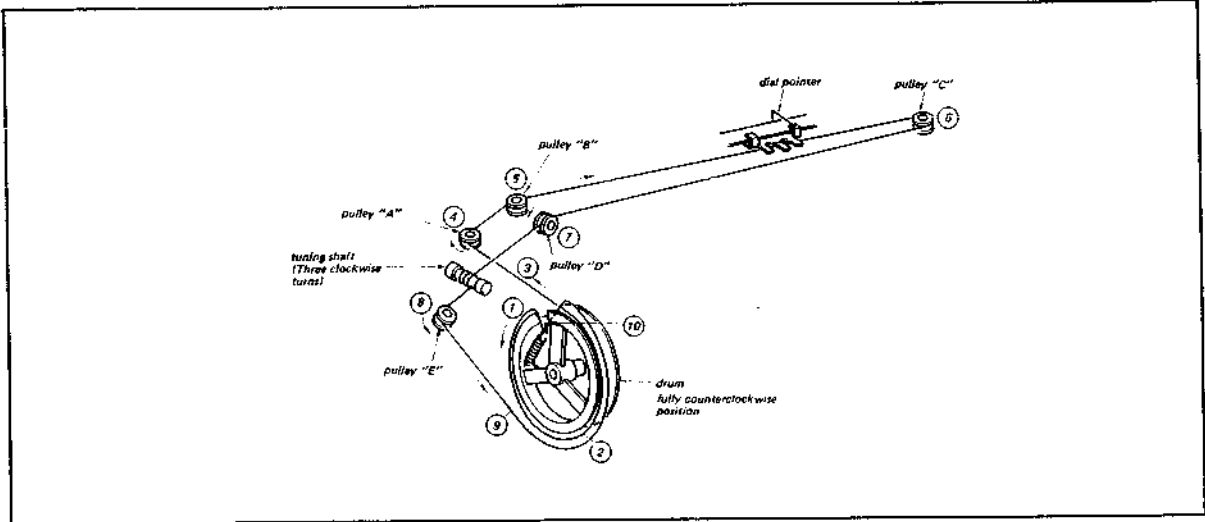
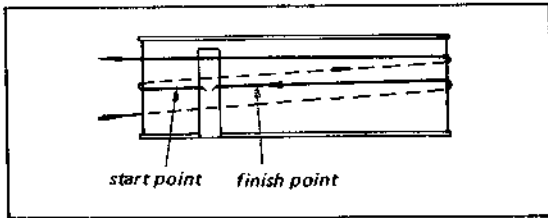

Fig. 2-6. Dial cord stringing
Fig. 2-7. Wrapping the dial cord
While referring to Fig. 2-6 proceed as follows:
2. Run the cord through the slot in the rim of the drum and wrap a counterclockwise turn in the inner side groove. See Fig. 2-7.
4. Run the cord over pulley "E" and then wrap half turn around the drum from outer groove to inner groove as shown in Fig. 2-6 and Fig. 2-7.